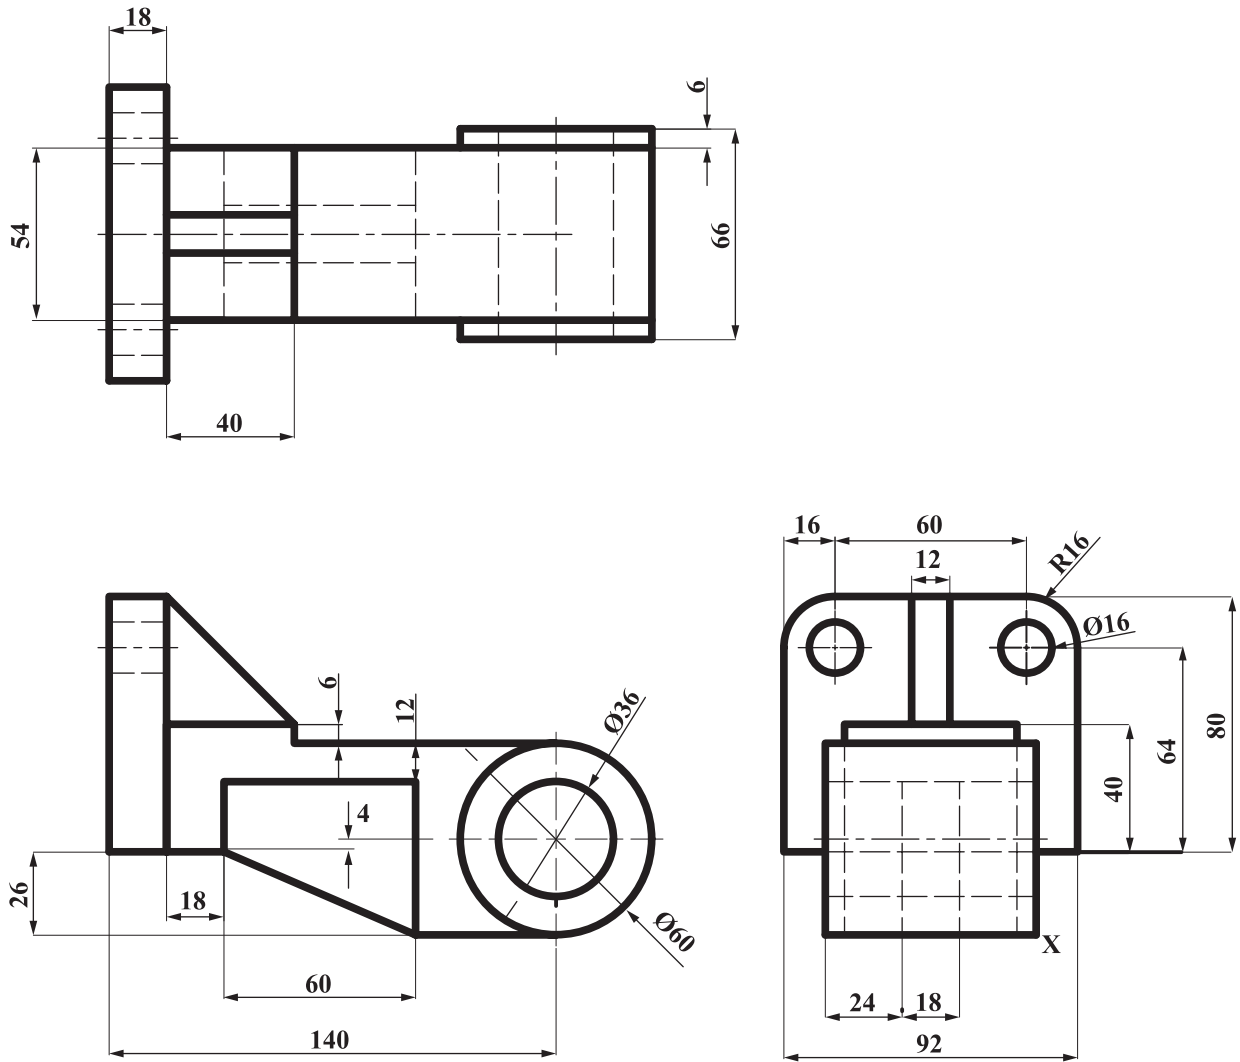

Figure 2. Bearing support
2. (a) Figure 2 shows a bearing support drawn in third-angle orthographic projection.